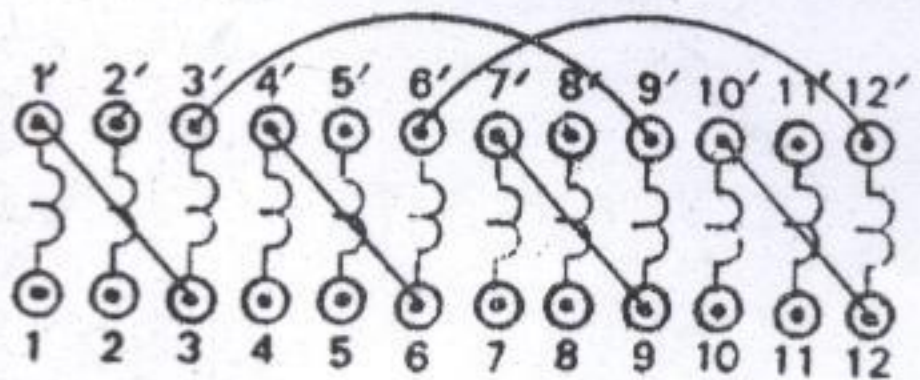

FIGURE 10: COMPOUND MOTOR- DIRECTION OF ROTATION
1. Connect the Universal Machine to operate as a compound motor as shown in Figure 10. Adjust the rheostat to its minimum resistance (fully counter-clockwise) position. Using the automatic DC starter, start the motor and note the direction of rotation.